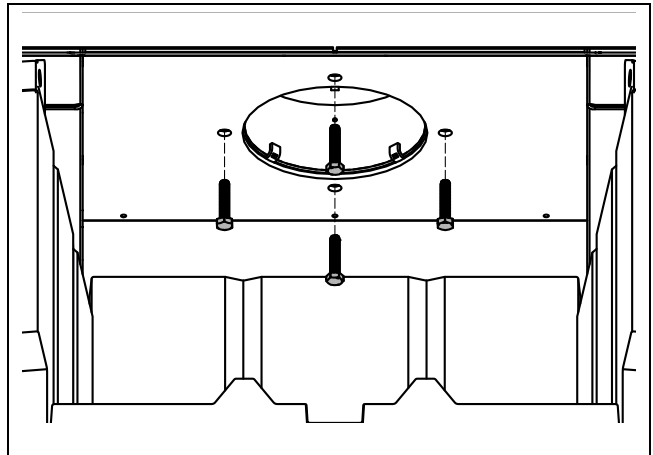

Figure 9 Connecting Appliance Flue Collar
5. If there is not enough room to connect the liner to the appliance flue collar, the appliance flue collar needs to be removed from the insert before sliding it into the masonry opening. Remove the first three secondary air tubes from left side (Figure 16), using a 5/16" socket, and remove the baffle to have access to the appliance flue collar bolts. Remove the 4 bolts from the appliance flue collar (Figure 9). Connect the stove adapter to the appliance flue collar (Figure 7). When the stove adapter is secured, attach the pull-handle to the appliance flue collar.
9. Bolt the appliance flue collar in place from the inside of the firebox with the four bolts provided (Figure 9).